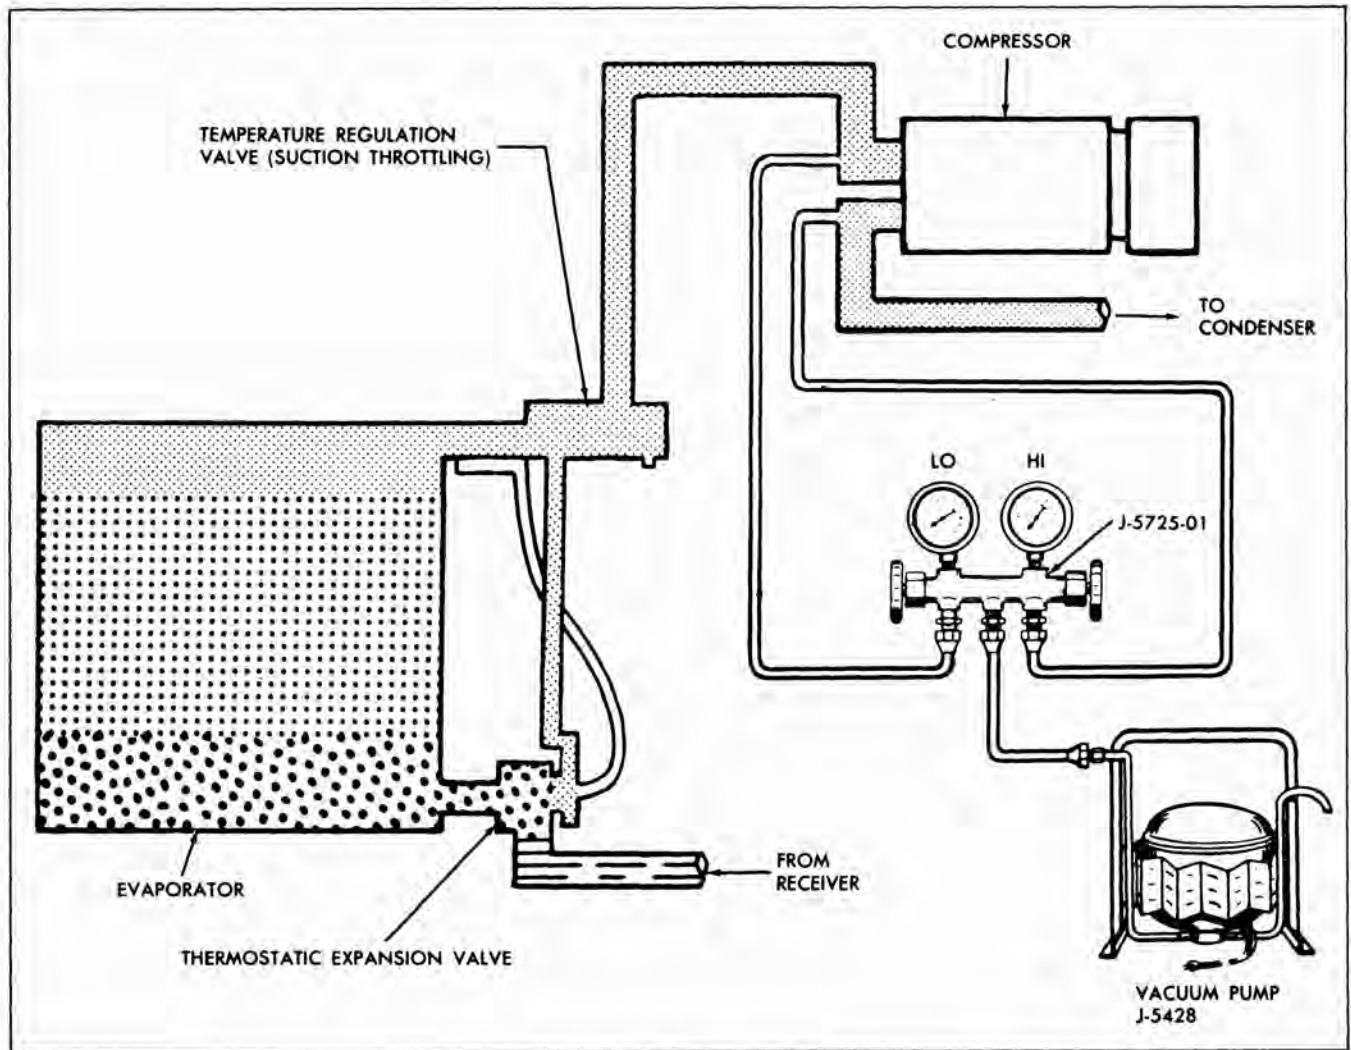

Fig. 6-32 Schematic Showing Connections and Tools for Evacuating Refrigeration System
3. Attach a flexible gauge hose to the center fitting of the gauge set and attach the other end of this hose to the vacuum pump J-5428. (See Fig. 6-32).